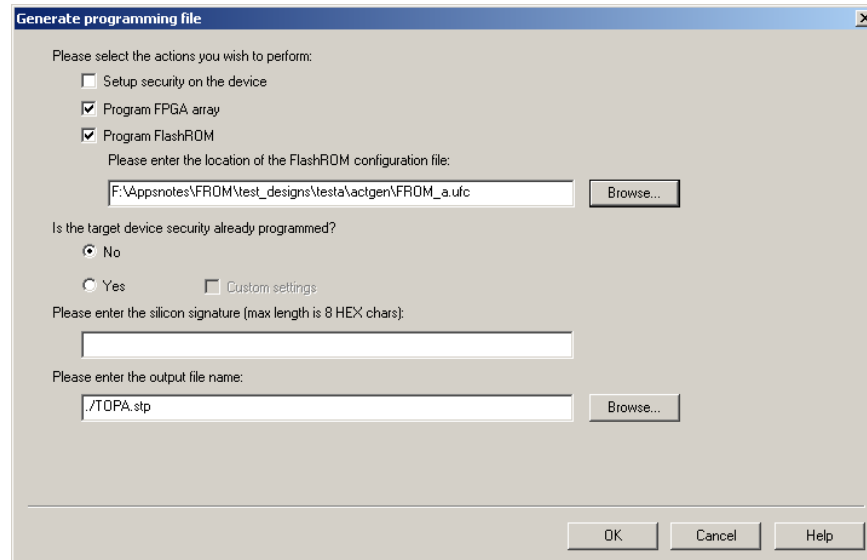
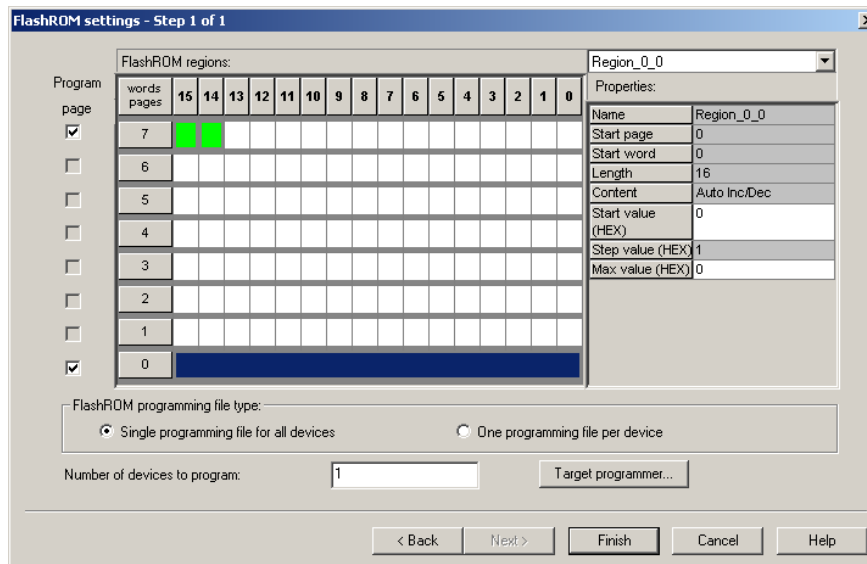

Figure 6-12 • Programming File Generator
Figure 6-13 • Setting FlashROM during Programming File Generation
Figure 6-12 shows the programming file generator, which enables different STAPL file generation methods. When you select **Program FlashROM** and choose the UFC file, the FlashROM Settings window appears, as shown in Figure 6-13. In this window, you can select the FlashROM page you want to program and the data value for the configured regions. This enables you to use a different page for different programming files.
3. Select **Programming File** in Designer and open **Generate Programming File** (Figure 6-12 on page 6-12).
4. Click **Program FlashROM**, browse to the UFC file, and click **Next**. The FlashROM Settings window appears, as shown in Figure 6-13 on page 6-12.